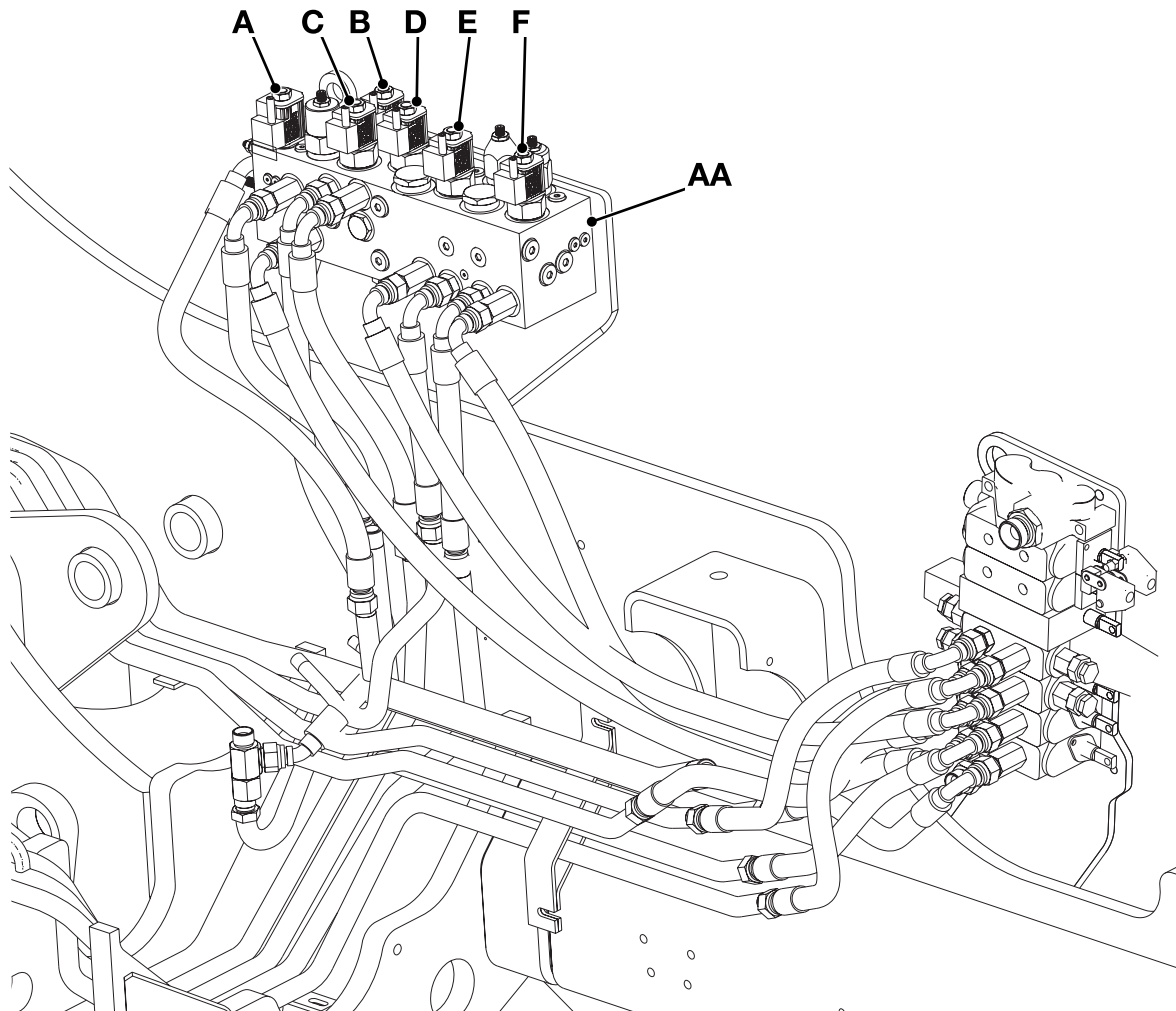
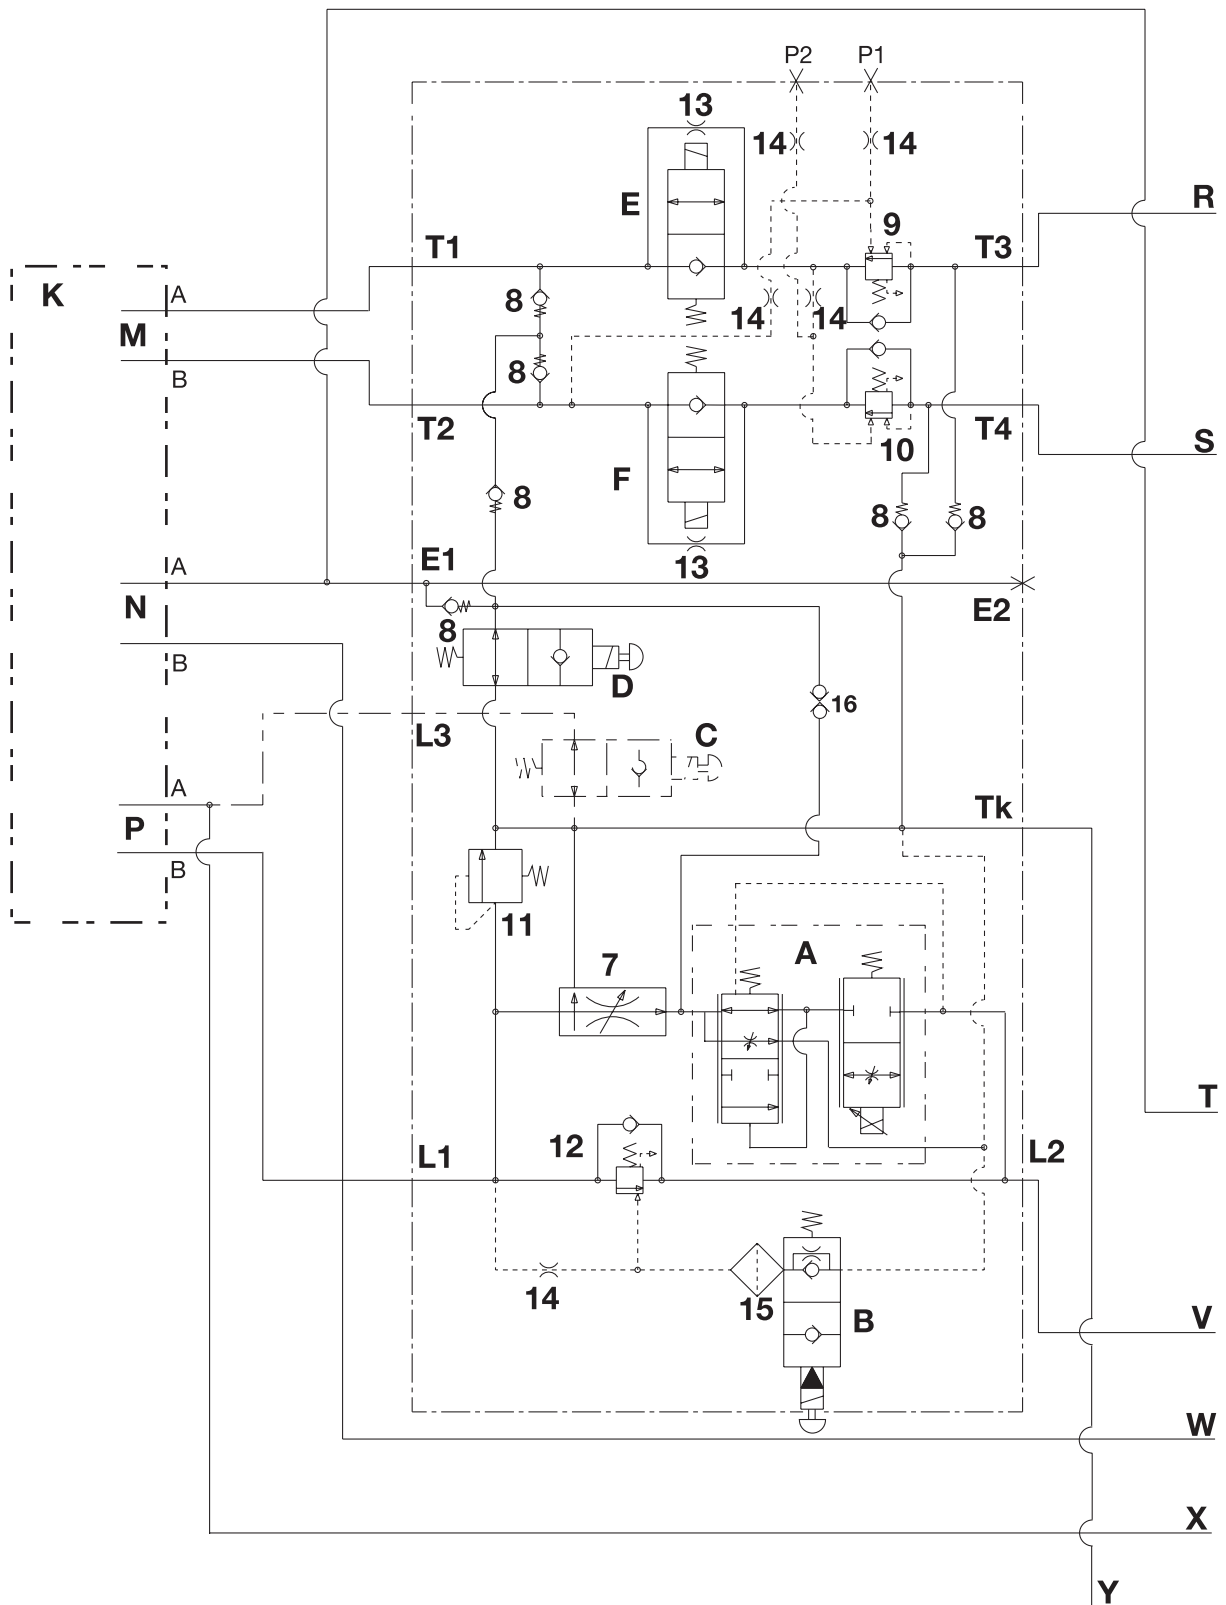

Fig 2. Typical Circuit
Fig 3. Six Valve Manifold AA
- ⇒ Fig 2. \(□ 11\)
- ⇒ Fig 3. \(□ 13\)
⇒ Fig 2. \(□ 11\) and ⇒ Fig 3. \(□ 13\)